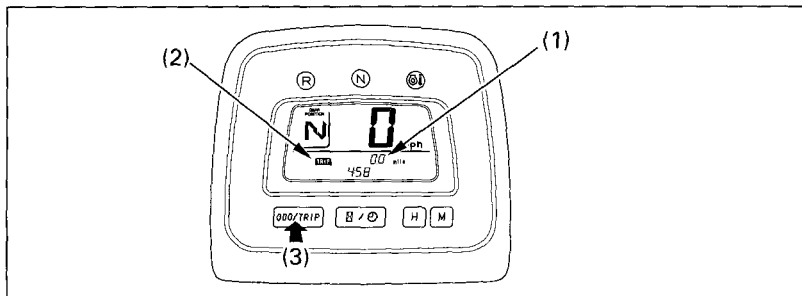

Fig. 2-18 (1) Tripmeter (3) Odometer/Tripmeter select button
When selected, the tripmeter (1) (Fig. 2-18) shows mileage per trip while the ignition is ON ( I ). To change the display (2) from odometer to tripmeter, press and release the Odometer/Tripmeter select button (3). To reset the tripmeter to zero, press the Odometer/Tripmeter select button and hold it in for at least two seconds.